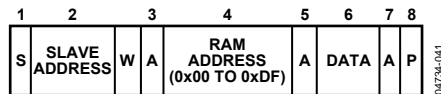

Figure 30. Single Byte Write to the RAM
- To write a single byte of data to the RAM. In this case, the command byte is RAM Address 0x00 to RAM Address 0xDF, and the only data byte is the actual data, as shown in Figure 30.